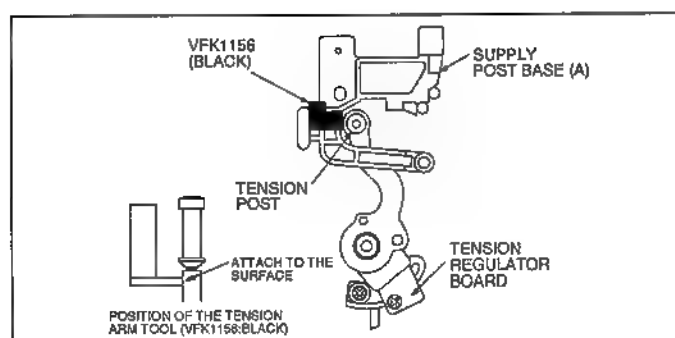

Fig. E-3
2. Set the VFK1156 to the Supply Post Base (A) as shown in Fig. E-3.